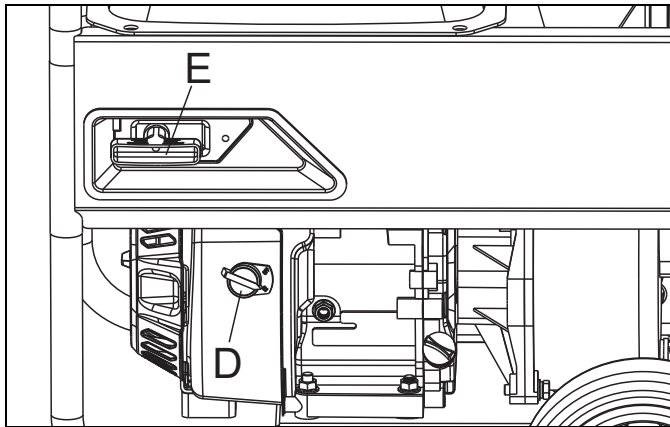

Figure 5-5. Start the ST20 Water Pump
4. Turn the engine switch (D) to ON position (Figure 5-5).
5. Secure unit from movement when pulling starter handle (E) (Figure 5-5).